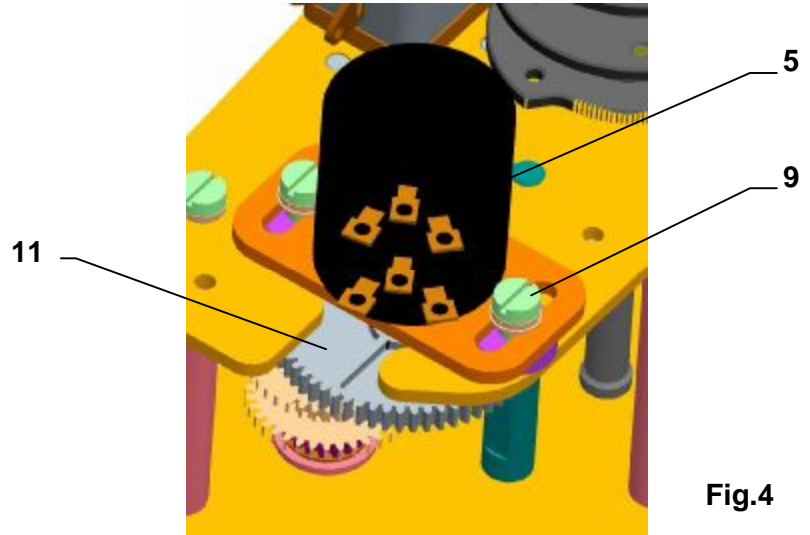

Fig.4
- in the version with a resistant transmitter (Fig.4) disengage the transmitter;
4.3 Adjustment of resistant transmitter (Fig.4)